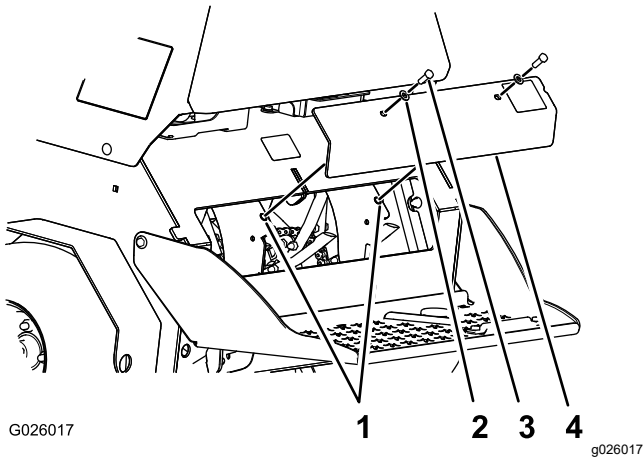

Figure 72
3. Remove the 2 bolts (3/8 x 1 inch) and 2 washers (3/8 inch) that secure the rear-cover panel to the chassis, and remove the panel (Figure 72).
6. Align the holes in the rear-cover panel to the holes in the chassis (Figure 72).
7. Secure the cover panel to the chassis with the 2 bolts and 2 washers (Figure 72) that you removed in step 3, and torque the bolts to 37 to 45 N·m (27 to 33 in-lb)